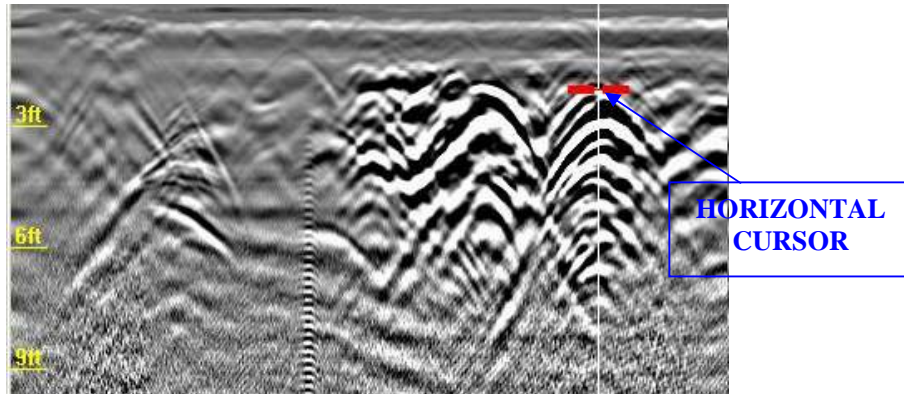

Fig. 5-11 – UP/DOWN function
- Use the  and  buttons to position the horizontal cursor on the peak of the chosen hyperbola (see Fig. 5-11).